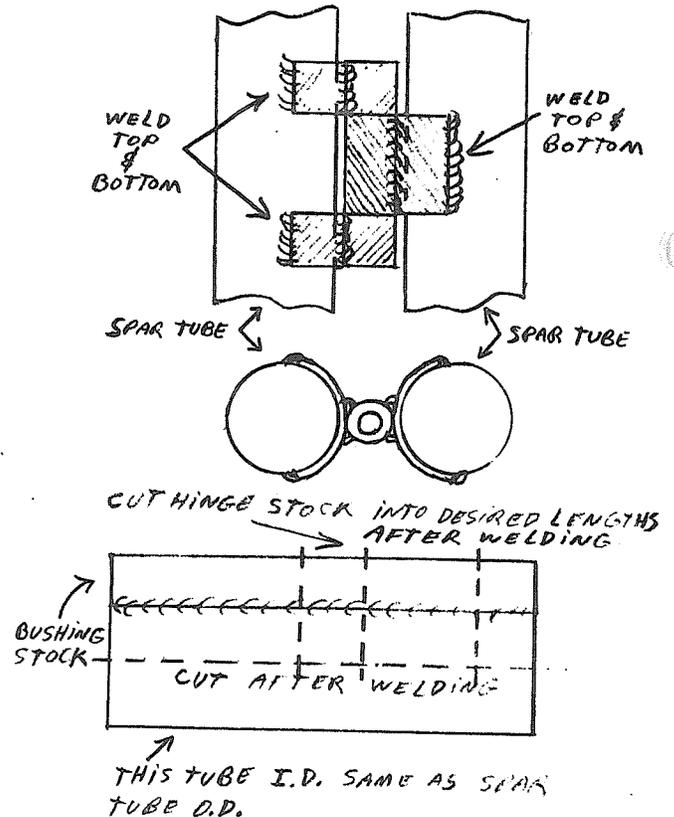

FIG. 1
**SONERAI, CONTROL SURFACES -** The rudder and elevator surfaces use a welded type of hinge, which, in the plans, is shown as lengths of bushing stock welded directly onto the spars of the stabilizer and control surface. There is another method that can be used that makes the process of alignment a little easier, and it automatically spaces the hinge away from the spar tube a sufficient amount for fabric clearance. As can be seen in figure 1, a long length of the hinge stock can be made up ahead of